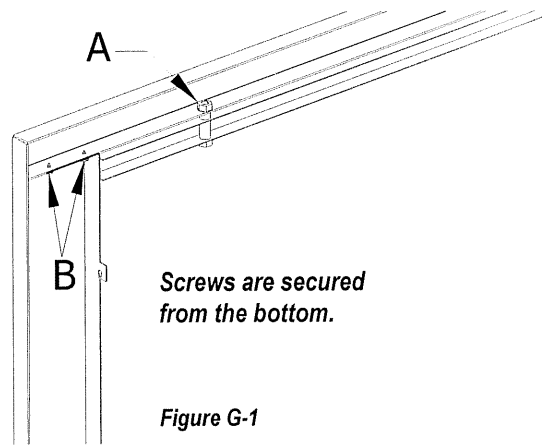

Figure G-1
#### ASSEMBLE THE SHROUD - Figures G-1 & G-2
2. Attach the upper grill to the top shroud piece by slipping the bolts on the upper grill through the holes in the top shroud piece and secure with the nuts (A). **NOTE:** The louvers on the upper grill should be in the downward position. See figures G-1 & G-2.
3. Secure the right and left shroud pieces to the top piece by aligning the (2) holes in the side pieces to the holes in the top piece. Secure with the screws provided (2 ea. side) (B).